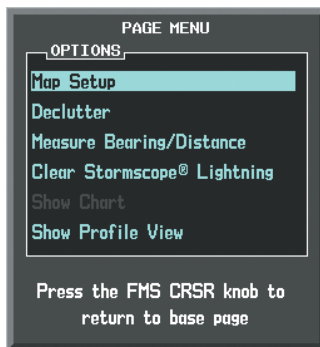

Figure 6-34 Navigation Map Page Menu
- 3) With Map Setup highlighted, press the **ENT** Key (Figure 6-34).